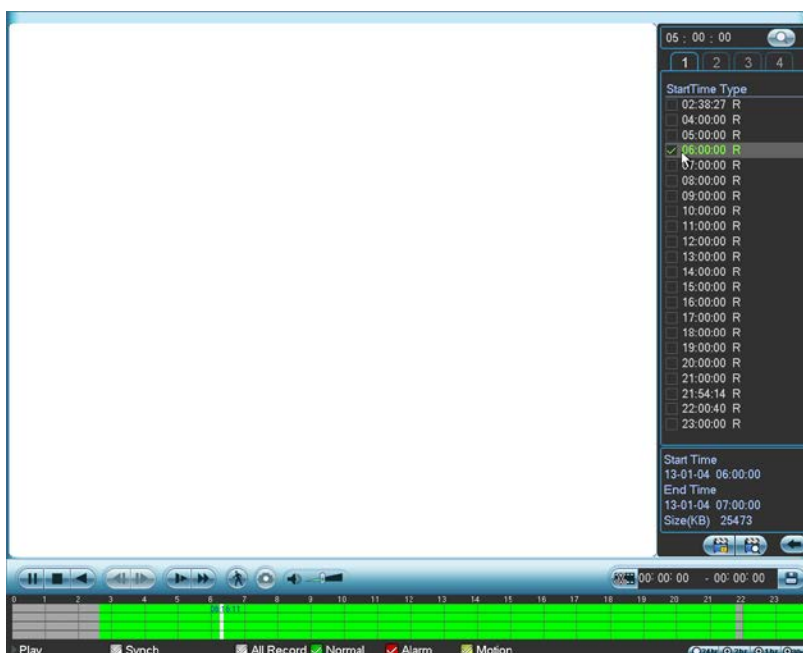

Figure 2-11
5. Click the Play button ►. The system begins play beginning from the specified time. See Figure 2-11.